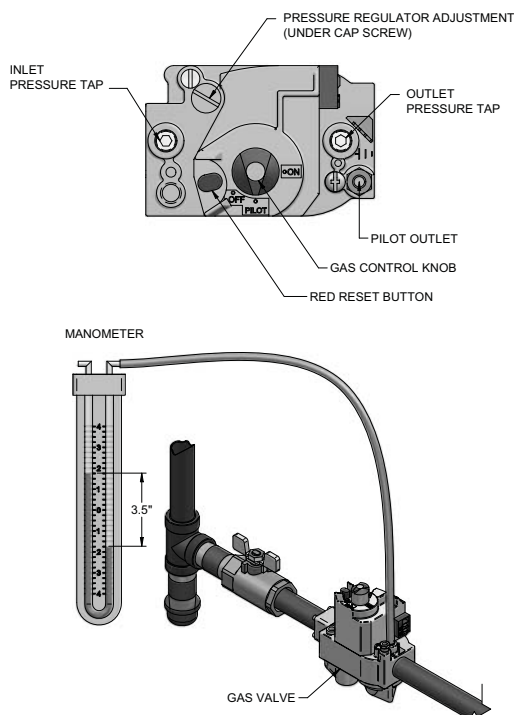

Figure 3-3_Manifold Pressure Adjustment
3. Remove the 1/8" hex plug located on the outlet side of the gas valve and install a fitting suitable to connect to a manometer or magnahelic gauge. See FIG. 3-3. Minimum range of scale should be up to 5" w.c. for Natural gas models and 10" w.c. for L.P. gas models.
4. Remove the pressure regulator adjustment cap screw on the gas valve. See FIG. 3-3 for location.